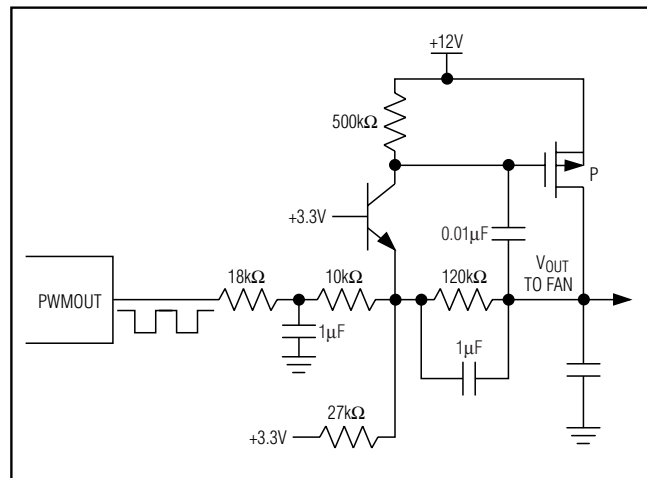

Figure 6. Driving a Fan with a PWM-to-DC Circuit
- 2) PWMOUT is converted (using an external circuit) into a DC voltage that is proportional to duty cycle. This duty-cycle-controlled voltage becomes the power supply for the fan. This approach is less efficient than 1), but can result in quieter fan operation. Figure 6 shows an example of a circuit that converts the PWM signal to a DC voltage. Because this circuit produces a full-scale output voltage when PWMOUT = 0V, bit D4 in register 02h should be set to zero.
The frequency-select register controls the frequency of the PWM signal. When the PWM signal modulates the power supply of the fan, a low PWM frequency (usually 33Hz) should be used to ensure the circuitry of the brushless DC motor has enough time to operate. When driving a fan with a PWM-to-DC circuit, as in Figure 6, the highest available frequency (35kHz) should be used to minimize the size of the filter capacitors. When using a fan with a PWM control input, the frequency should normally be high as well, although some fans have PWM inputs that accept low-frequency drive.